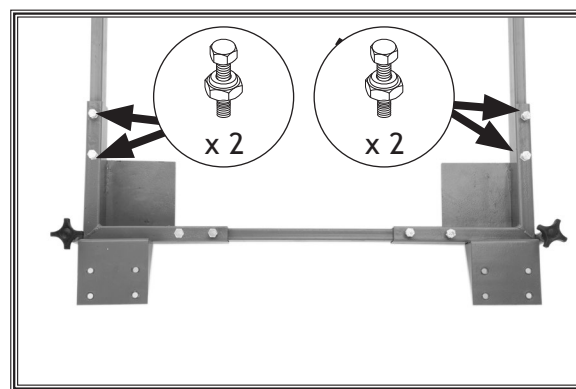

Figure 20. Rails fastened to brackets.
7. Slide the other ends of the rails into the corner brackets from **Step 6**. Secure each end of the rails to the corner brackets with (2) M8-1.25 x 25 hex bolt and 8mm lock nut assemblies (see **Figure 20**).